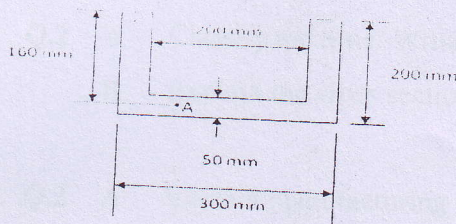

Figure: 1 Q: 2(B)
- Q.1 A An overhanging having beam of span 4m simply support at left end and roller support at 3m from left end, is carrying uniformly distributed load of 12kN/m on 2m length from left support. a point load of 10kN inclined at 30° acting at 2m from left support, moment of 3kNm clockwise at same point. Draw the S.F. and B.M. Diagram. (06)
- B A Uniformly distributed load of 10 kN/m load is applied on entire span of simply supported beam length of 4 m. Draw the shear force and bending moment diagram and show all the important values. (04)
- Q.2 A What do you mean by 'simple bending' or 'pure bending'? What are the assumptions made in the theory of simple bending? (02)
- B Figure 1 show the section of a beam which is loaded in the vertical plane of symmetry. Thickness of channel section is 50 mm. (06)
- C Shown that for a rectangular section of the maximum shear stress is 1.5 times the average stress. (02)